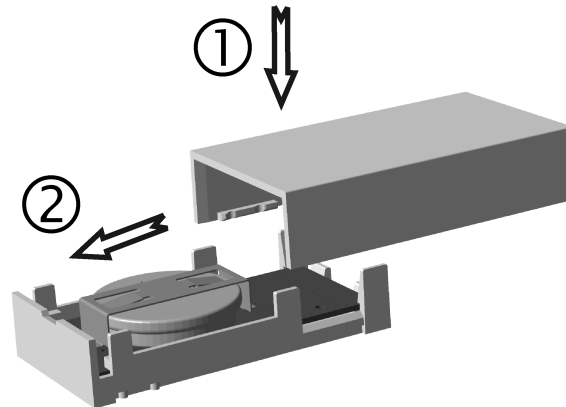

Figure 4: Close housing
- Reattach the housing lid and push the housing together until it locks into place. (Figure 4). The device is ready for operation.